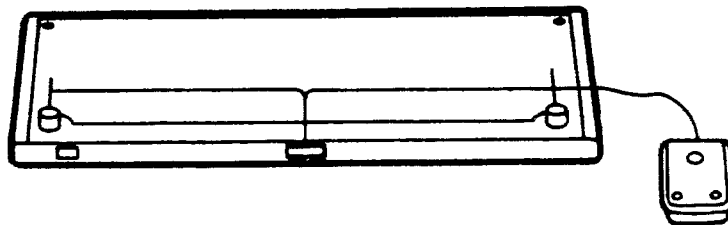

Figure 2-8. Bottom View of Keyboard
4. Thread the mouse cable through one side of the groove at the back of the keyboard. For example, Figure 2-8 shows the mouse cable threaded to the right side of the keyboard to accommodate a right-handed person.